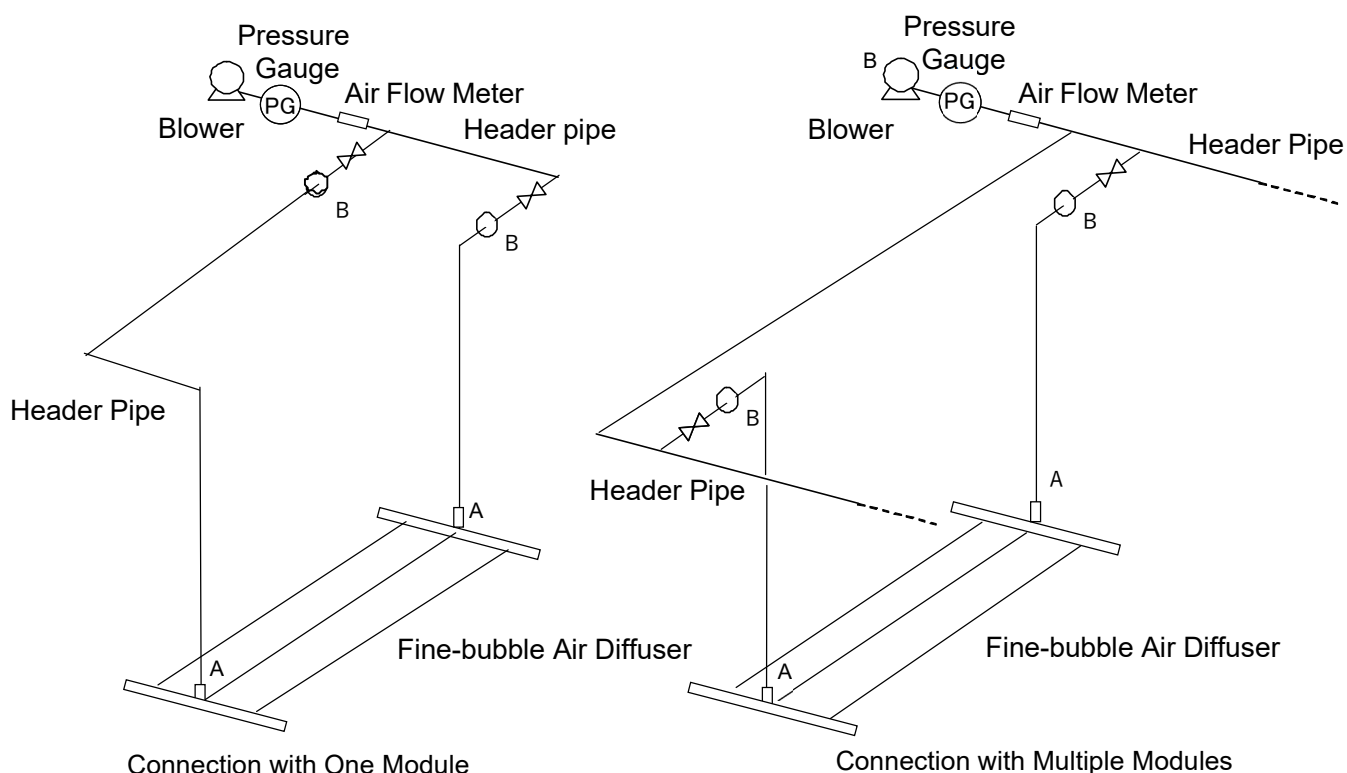

Figure IV-11: Fine-bubble Air Diffuser Configuration Example
- In case the aeration block needs to be pulled up from the MBR tank during maintenance, installing the flange (B) above the liquid level of the MBR tank is recommended.
Connect the piping from the air supply device for air scouring, such as a blower, to the sides of the aeration block using a screw connection (A) (see Figure IV-11). In the middle of this piping, install a flange connection (B) above the liquid level to disconnect the piping when removing the aeration block.